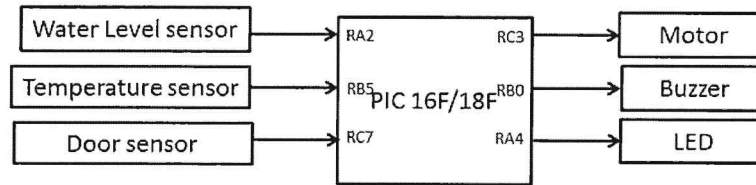

Figure A1(c) / Rajah A1(c)
- c) Figure A1(c) shows a block diagram of a washing machine. Implement a C language program to configure the input and output pins using byte addressable format.